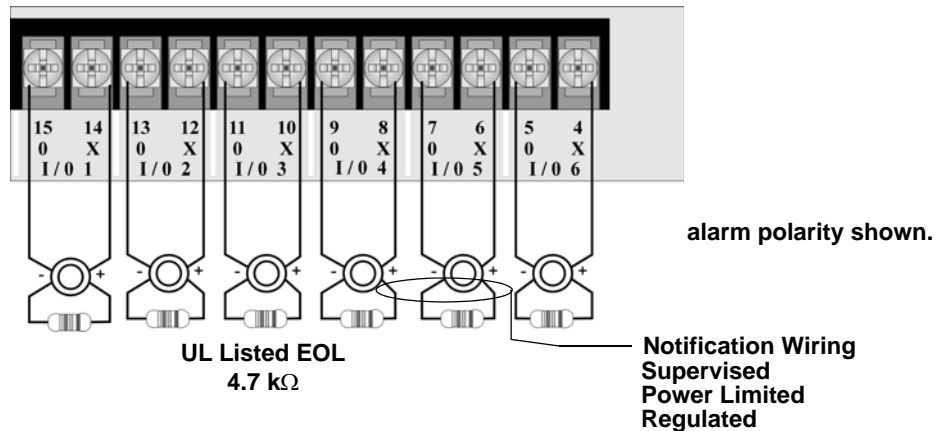

Figure 3.12 Class B Notification Appliance Circuit Wiring
1. Wire Class B Notification appliances as shown in Figure 3.12.